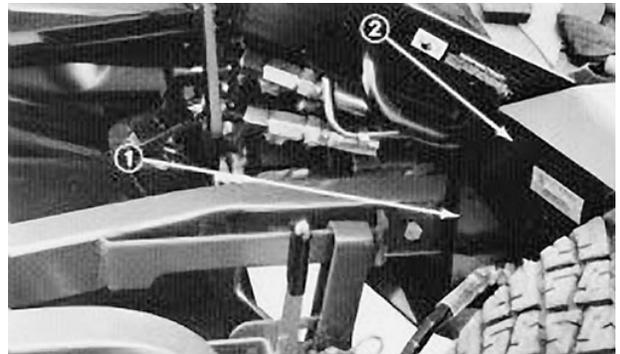

Figure 68
2. Disconnect (3) hydraulic lines (quick couplers) and wire harness at the rear of the deck.
4. Remove (2) capscrews and locknuts securing the cutting unit carrier frames to the traction unit lift arms (Fig. 68).
On each side of the center deck is a safety door that opens and closes as the wing decks are lowered and raised (Fig. 68). The doors open to provide overlap of the cutting blades when the wing units are down. The doors close to provide safety and protection when the wing units are raised. Check to make sure the forward, lower edge of the door (Fig. 68) is even or 6mm higher than the lower edge of the door guide when the wing decks are in the fully raised, transport position. If an adjustment to the door is required, proceed as follows: